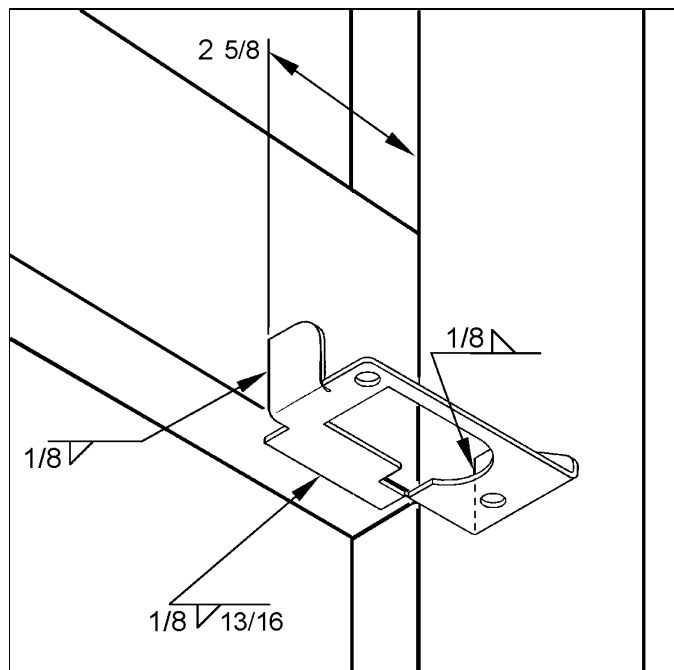

FIGURE 5
9. In case of interference between the flexible hose and the existing front bumper R. H. side latch, remove the latch and support (287423). Install new latch support then the latch (refer to figure 5 & 6). Also replace actuating rod with rod #287424.